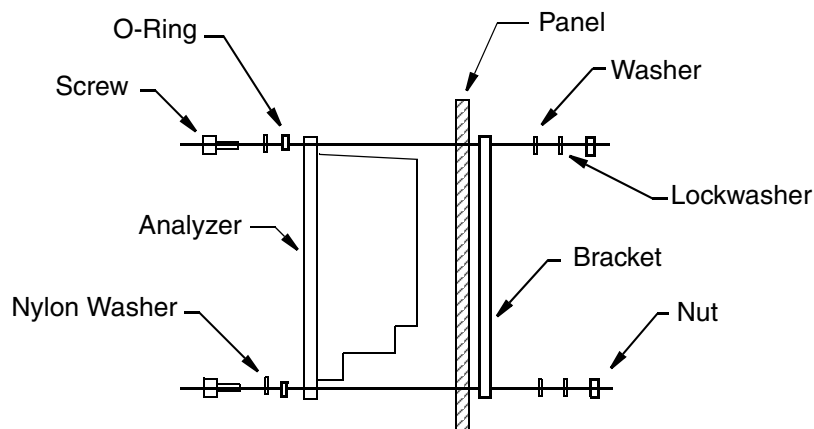

Figure 4. Panel Mounting
Panel Mounting: The basic housing meets NEMA 1 requirements for general purpose, indoor applications. However, when properly installed in a panel per Figure 4 on page 13, the front surface provides the environmental and corrosion resistant protection of NEMA Type 4X, CSA Enclosure 4X, and IEC IP65.
Panel mounting of the analyzer is shown in Figure 4. For panel cutout size, space requirements, and other dimensional data, see DP 611-164. Place the analyzer into the panel cutout from the front side and fasten it to the panel with appropriate hardware via the four holes in the corners of the analyzer bezel. The basic enclosure of the panel-mounted analyzer meets NEMA 1 requirements for general purpose, indoor applications. However, when mounted in a panel and gasketed in place with the IPS supplied gasket, the front surface provides the environmental and corrosion resistant protection of NEMA Type 4X, CSA encl. 4X, and IEC IP65.
3. To meet the requirements of NEMA 4X, CSA encl. 4X, and IEC IP65, the panel cutout dimensions must be held to tolerances shown in DP 611-164 and the analyzer must be mounted as shown in Figure 4.